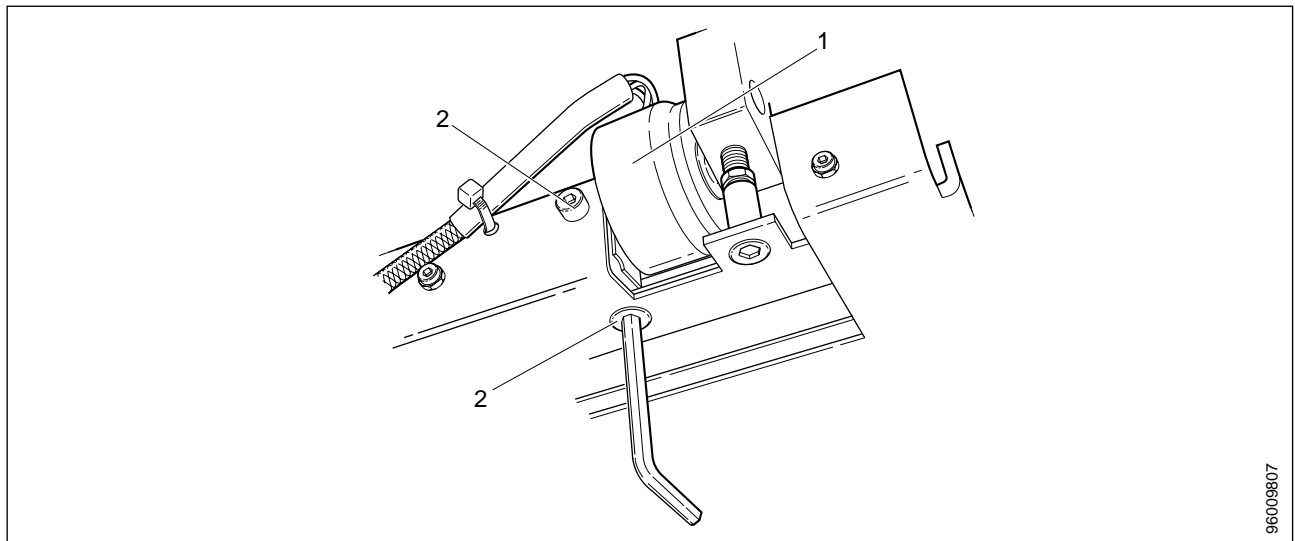

Fig. 6 Removal of electromagnet
10. Remove the electromagnet (1/ Fig. 6) by unscrewing the two Allen screws (2/ Fig. 6).